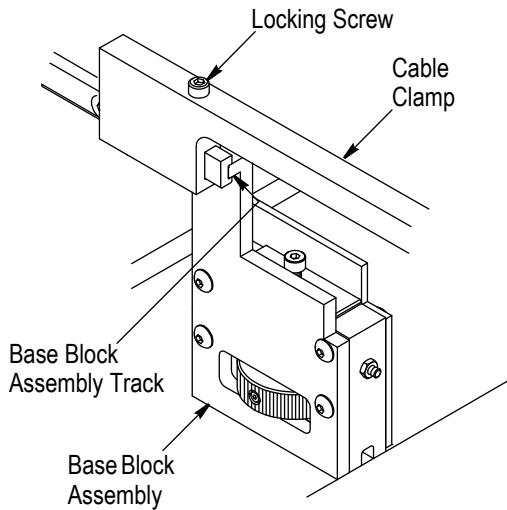

Figure 2
3. Slide the bottom of the cable clamp onto the base block assembly track as shown in Figure 2.